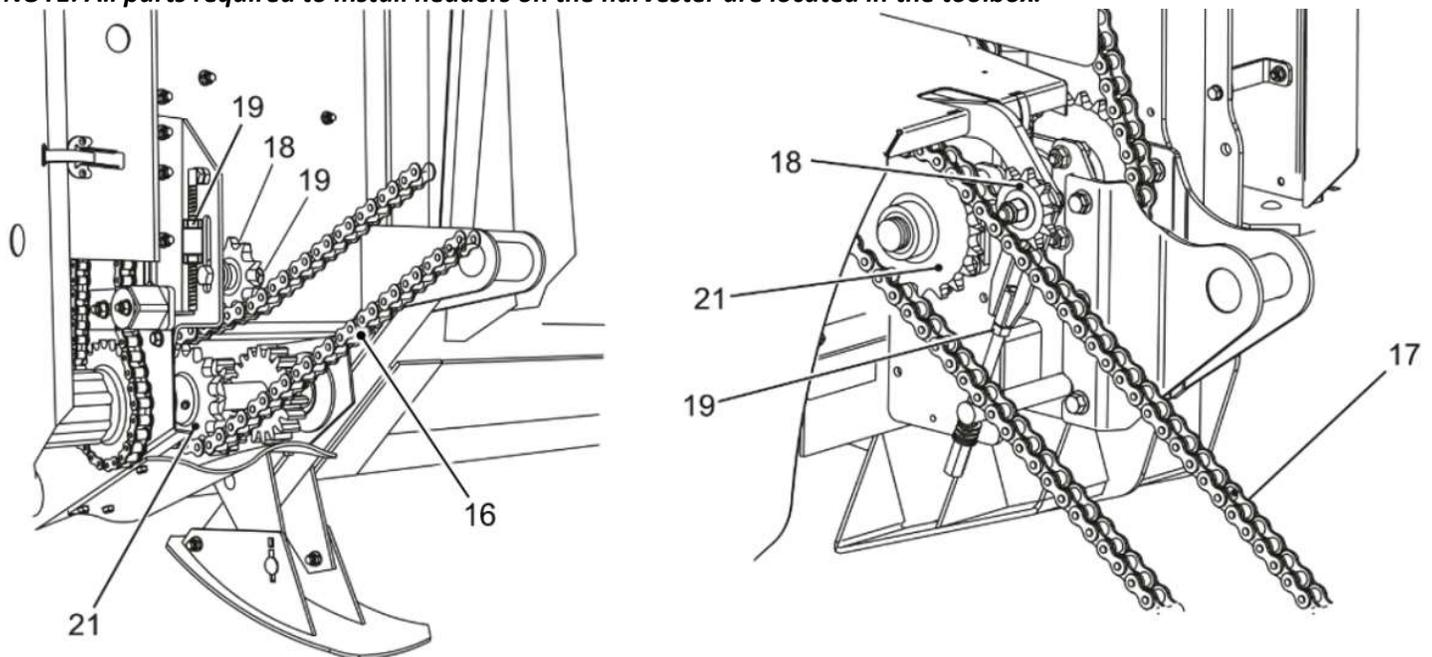

Figure 59 Drive chain
STEP 5 - FIGURE 59
STEP 6 - FIGURE 59